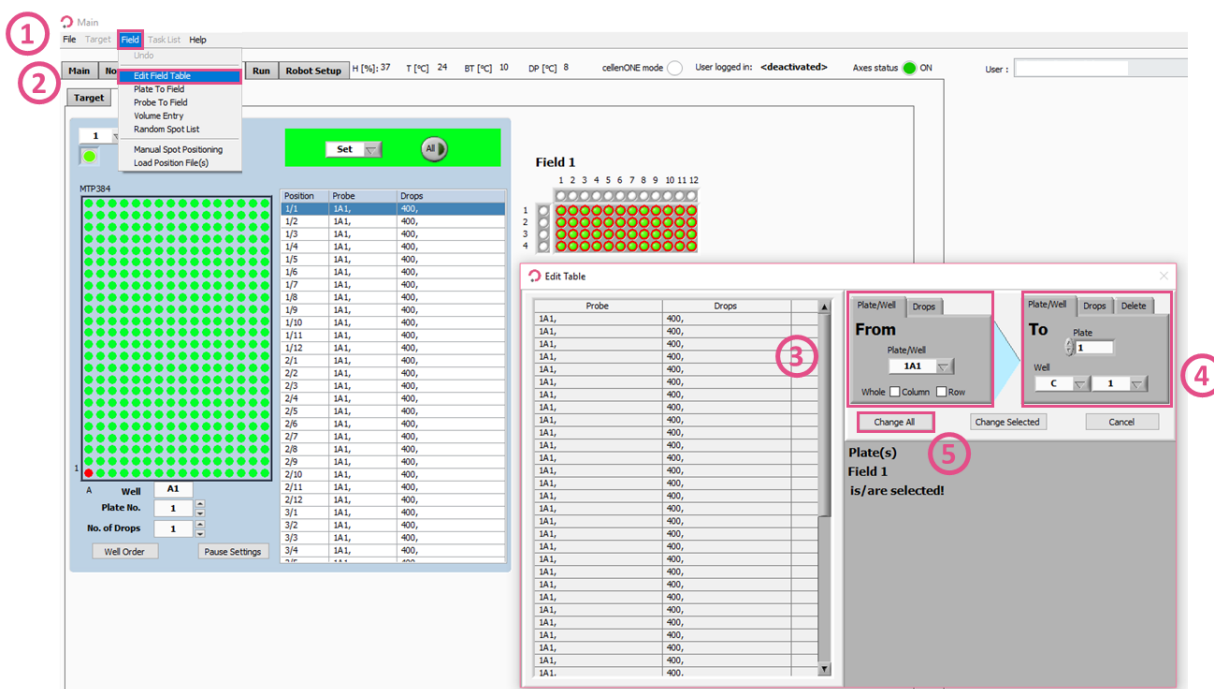

Figure 6. Edit Field Table.
You can edit these fields using **Edit Field Table** item to change (Figure 6):
To modify the number of drops/volume in the Field setup refer to Figure 6 and change the number of drops/volume by clicking on the **Drops** subtab in displays (3) and (4), then clicking on **Change all** button (Figure 6.5).